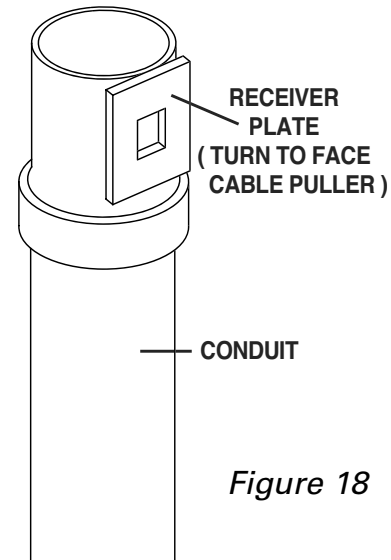

Figure 18
2. Thread coupling onto the conduit until tight. Then, slightly back off coupling until the coupling receiver plate faces the direction where the puller will be positioned. See Figure 18.